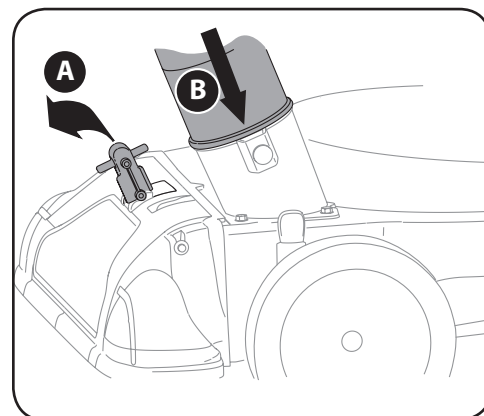

Figure 4-5
1. Place nozzle/hose vac lever in the bottom position on the nozzle to redirect vacuum to the hose assembly. See A in Figure 4-5.
2. The spring loaded pin must be in the second hole of the hose adapter to operate the hose assembly. See B in Figure 4-5.